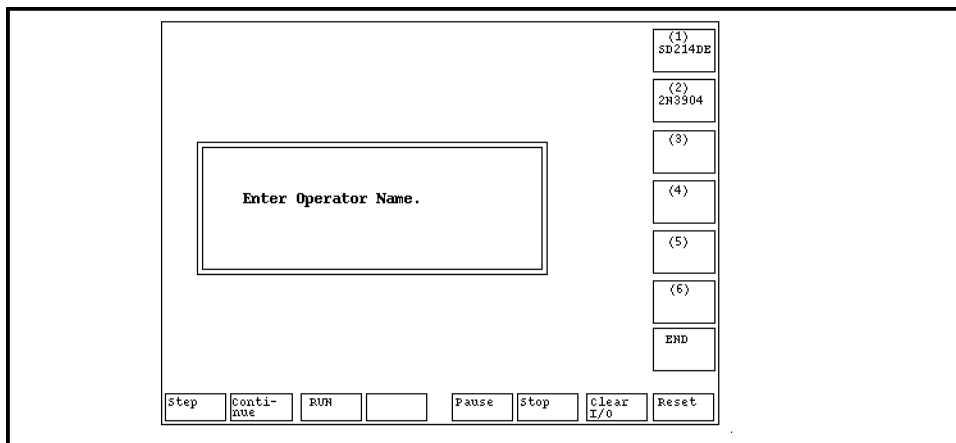

Figure 3-2. Operator Name Input Screen
4. You are required to enter supplemental information, such as "Operator name", as shown in Figure 3-2.